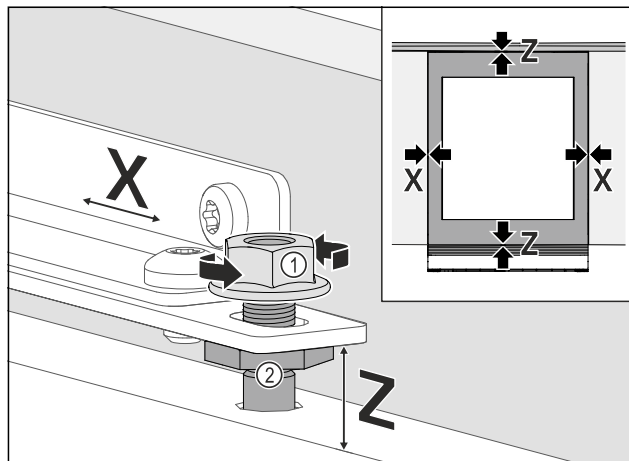

Fig. 70
- Align the unit door laterally: Loosen the lock nut Fig. 70 (1), move the unit door in X direction.
- Tighten the lock nuts Fig. 70 (1).
- Align the height Z and lateral inclination of the unit door: Set the adjustment bolt Fig. 70 (2).